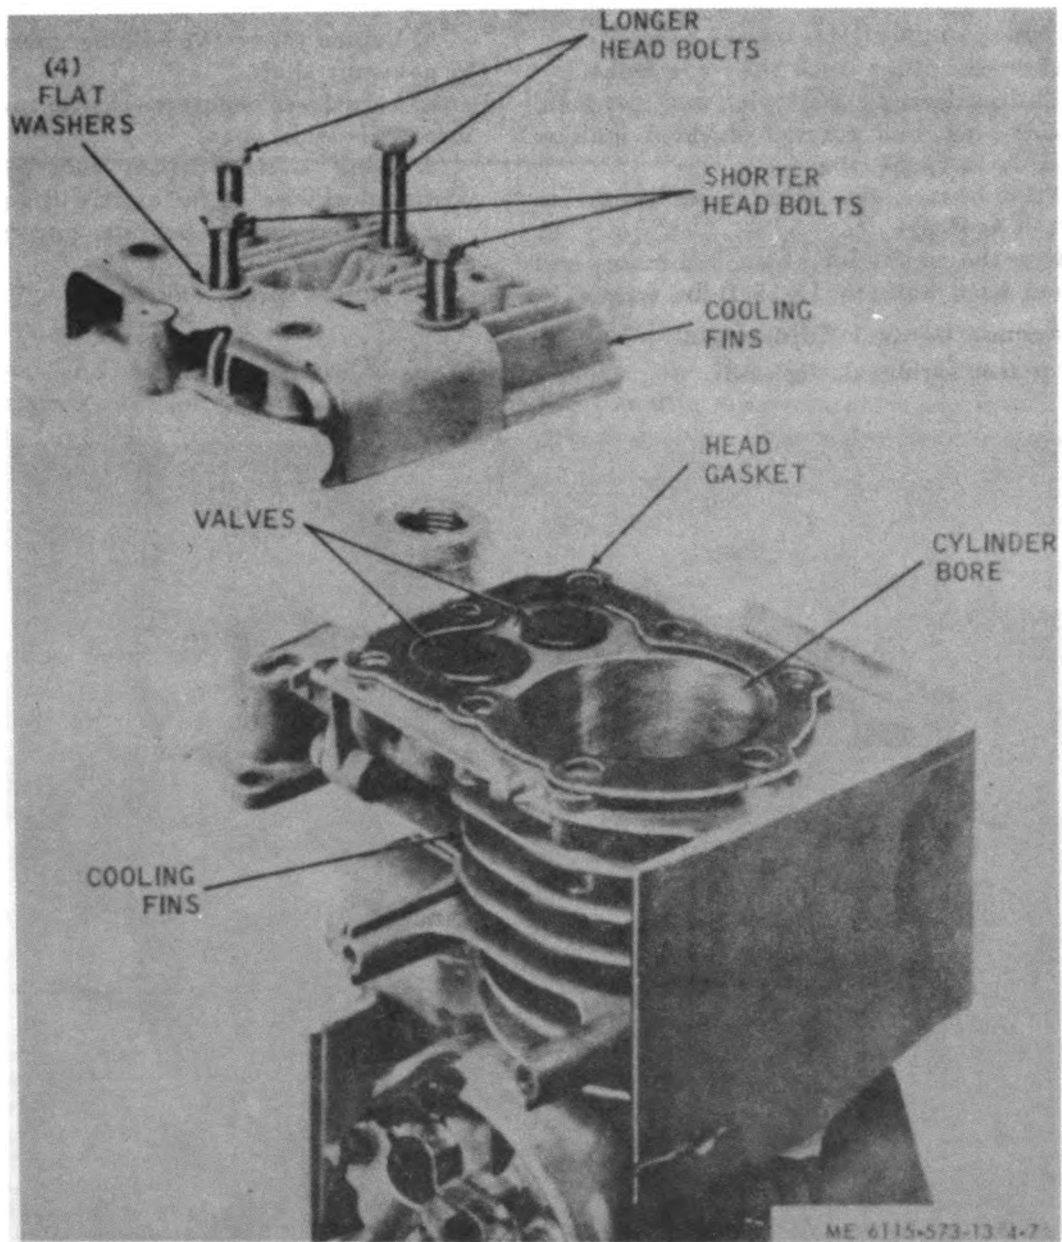

Figure 4-7. Cylinder head, removal and installation.
- (2) Remove spark plug from cylinder head.
- (3) Position piston on top dead center on compression stroke. Both valves are fully closed.
- (4) Remove the four head bolts and slip head out from under top baffle plate (fig. 4-7).